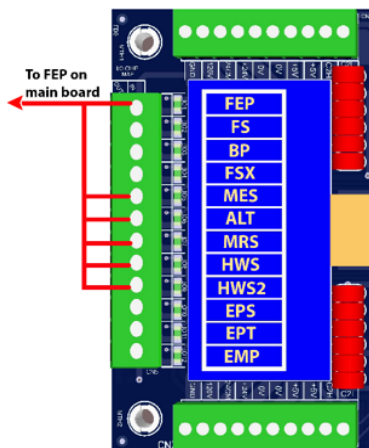

Figure 1: Typical I/O Expansion Board Fire I/O Board
- 1.4 Add temporary connections on the GALX-1102 Main I/O Board and Expansion I/O boards as shown in Figures 1, 2, 3, and 4.